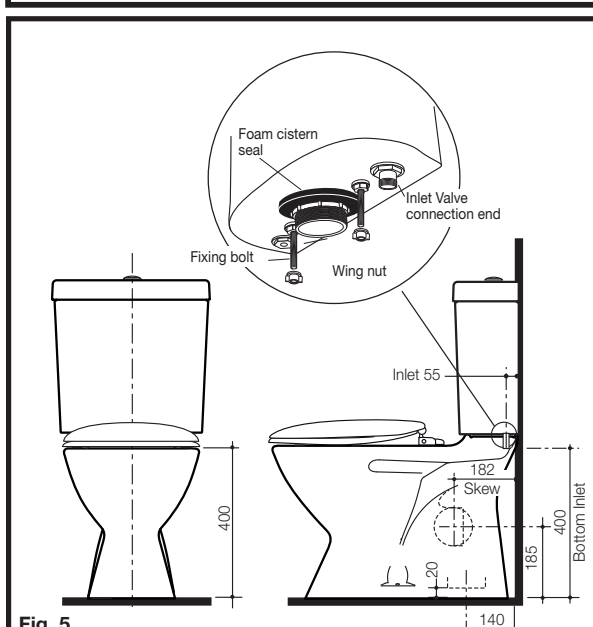

Fig. 5
- 1- Ensure the pre-fixed foam seal at base of cistern is securely attached to cistern base, as detailed in Fig. 5.